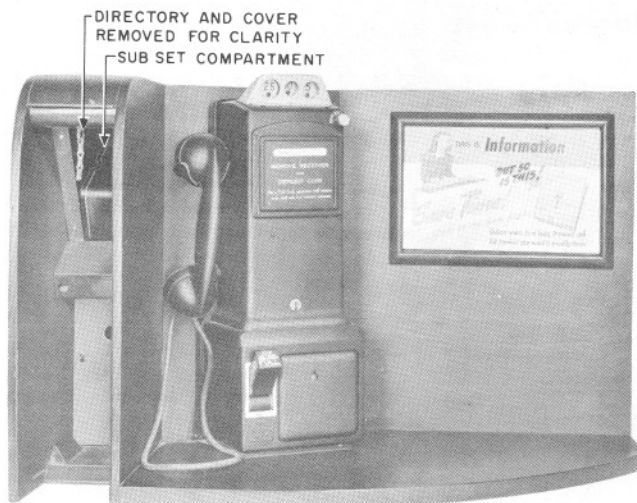

Fig. 1 — Singly Mounted, 19-type Shelf
- Singly, as shown in Fig. 1.
**3.04** Metal-covered or network-type subscriber set is mounted underneath the shelf toward the rear. Store 684- or 531-type subscriber set in compartment at the rear of the directory compartment as shown in Fig. 1 and 2.